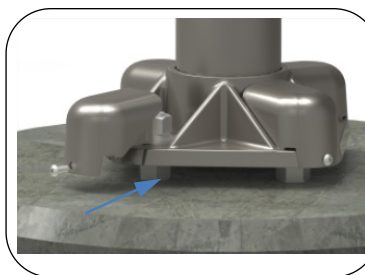
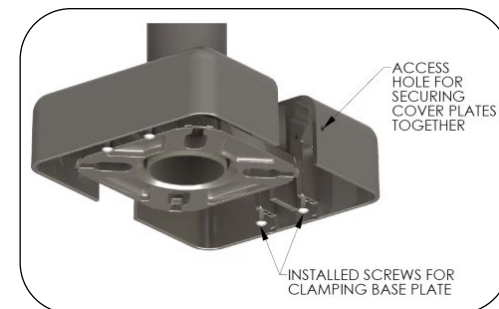

Fig. 3 – Install nut covers
Fig. 4 – Install cover plates
2. Install nut covers, Fig. 3 or optional cover plate, Fig. 4.